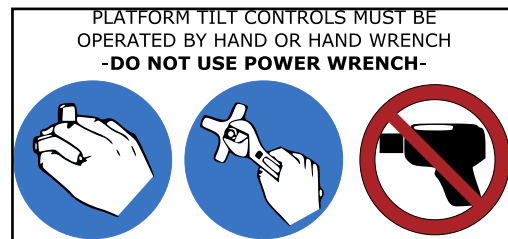

Fig. 2: Tilt control adjustment
- ⚠ **Never use a power wrench to operate lift platform tilt controls**. Instead, always adjust lift platform by means of hand knobs or hand wrenches. Limit torque to 30 foot-pounds to avoid damage to the platform tilt controls (Fig. 2).